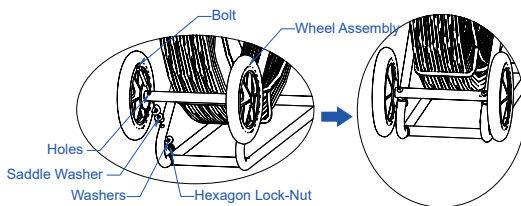

Figure 20.
6. Install The Wheel Assembly (See Figure 20)